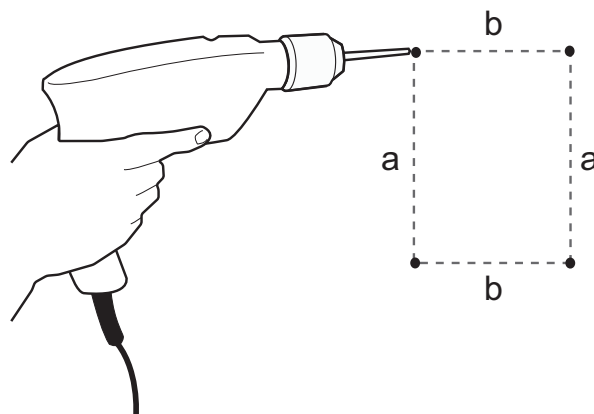

Fig. 5 Drilling of holes in the wall
1. Mark the mounting holes on the wall using the drilling template. See fig. 5.
2. Drill the holes. See fig. 5.